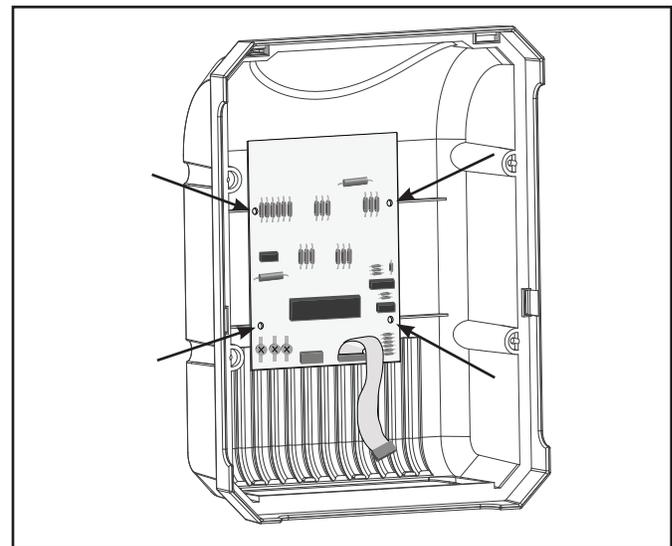

Figure 4. Control PCB Installed
4. Remove the power pack cover from the back plate. Turn the cover over and remove the four (4) screws attaching the Control PCB to the cover.
5. Attach the new Control PCB to the cover using the four PCB mounting screws provided in the kit (see Figure 4).